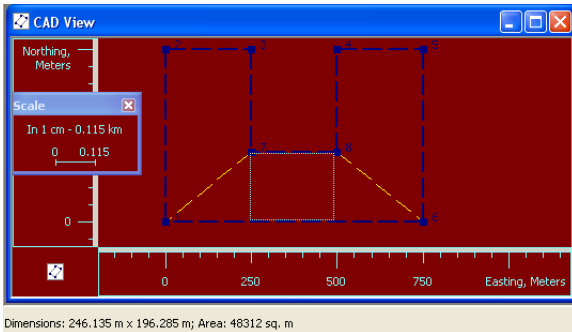

Figure 4-59. Show Area
- Show area size – enable to display an area of the rectangle in the Status Bar, when the user drags the rectangle on the CAD View (Figure 4-59).